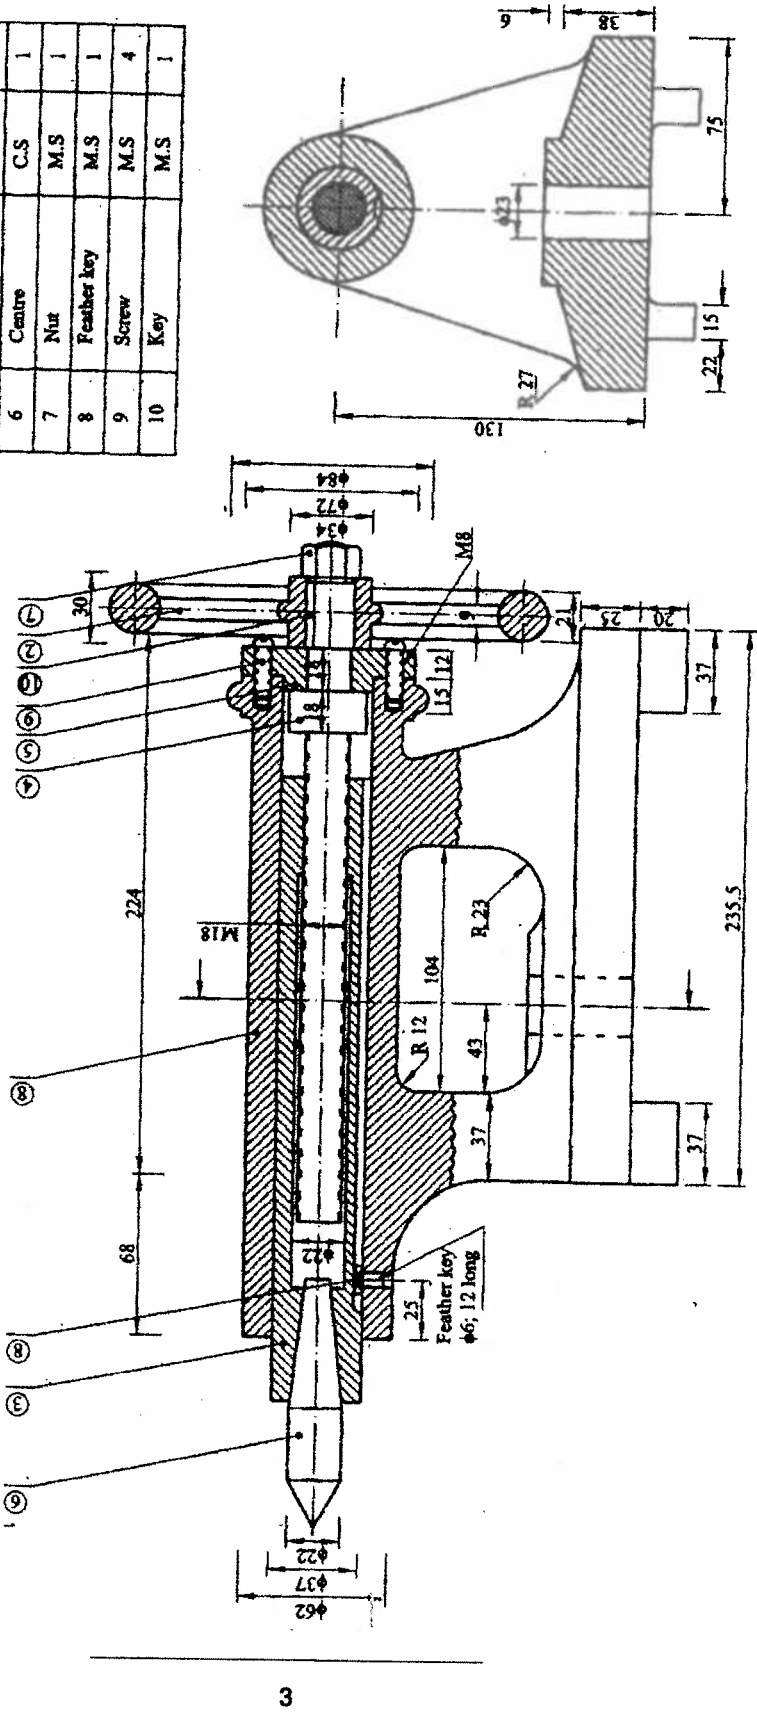

Fig. 1
11. From the assembly drawing of a lathe tail stock shown in figure 1 answer the following :
- i) Body (1) and Barrel (3)
- ii) Barrel (3) and centre (6)
- iii) Hand wheel (2) and spindle (4).